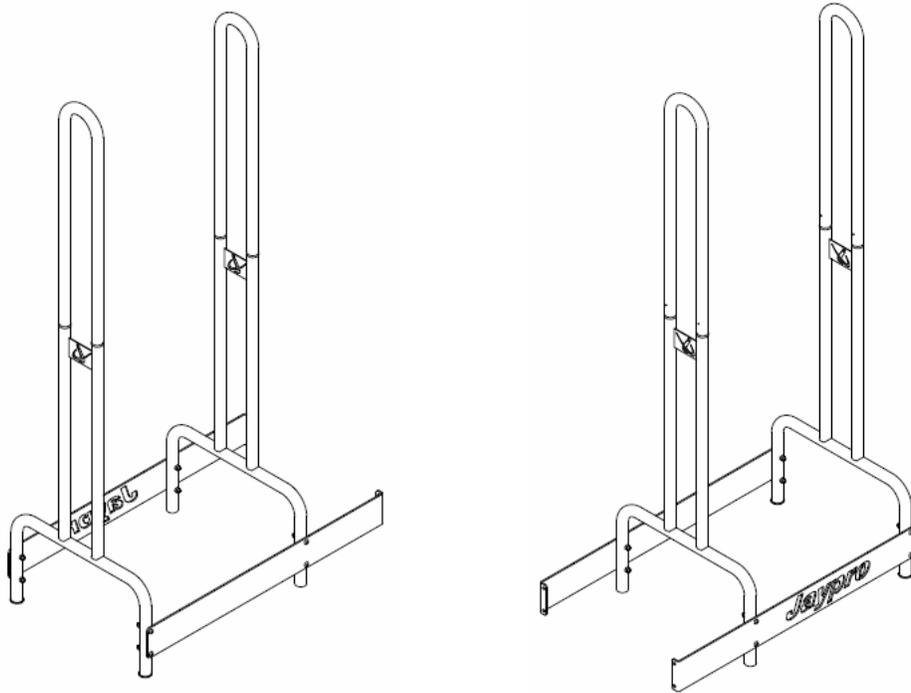

Figure 4
- 1) Orientate both halves of cart back to back (Figure 4) and line up the holes in the side plate flange.